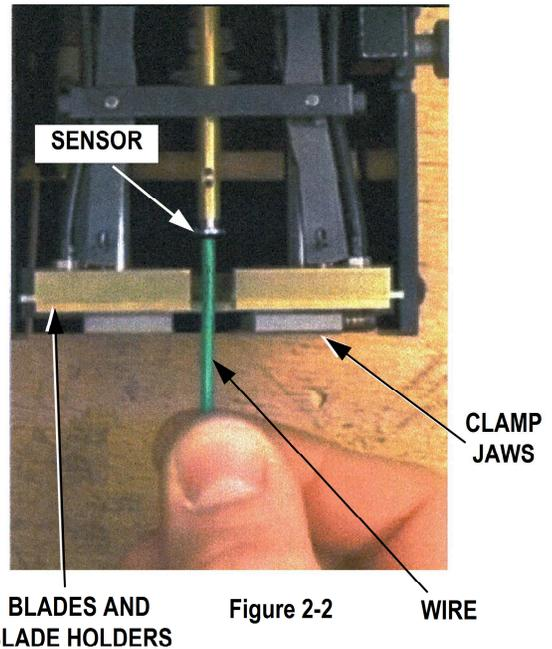

Figure 2-2
3. Insert the cable or wire into the slot of the safety cover until the end touches the Sensor (028.0035). See Figure 2-2.